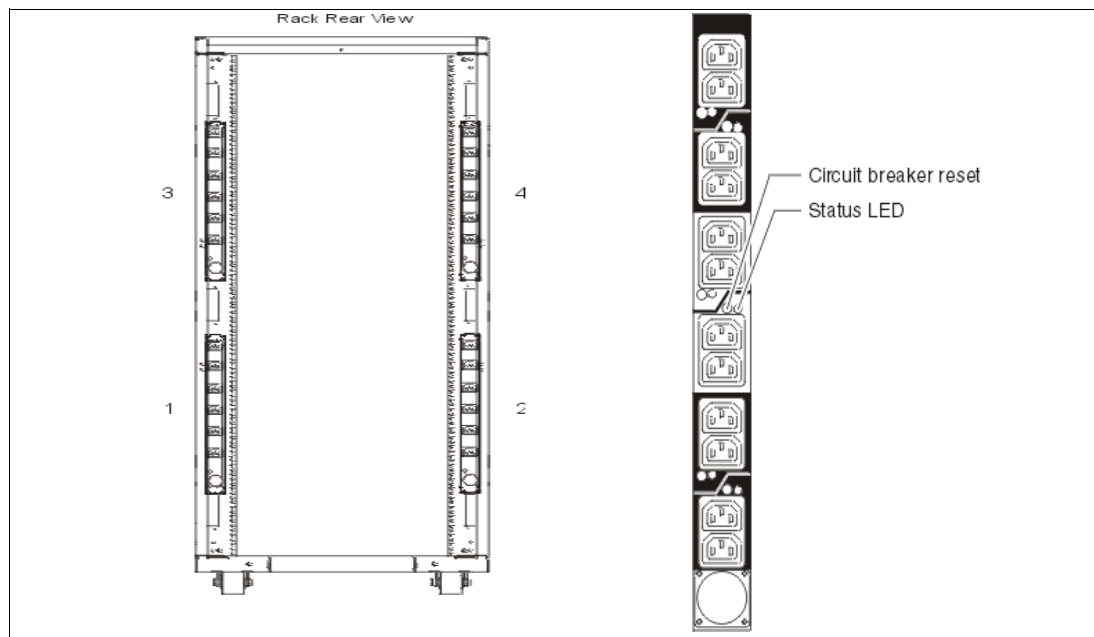

Figure 1-4 PDU placement and PDU view
- ▶ Up to four power distribution units (PDUs) can be mounted in the PDU bays (see Figure 1-4 on page 17), but others can fit inside the rack. See 1.5.6, “The ac power distribution unit and rack content” on page 16.
Four PDUs can be mounted vertically in the T00 and T42 racks. See Figure 1-4 on page 17 for placement of the four vertically mounted PDUs. In the rear of the rack, two additional PDUs can be installed horizontally in the T00 rack and three in the T42 rack. The four vertical mounting locations will be filled first in the T00 and T42 racks. Mounting PDUs horizontally consumes 1U per PDU and reduces the space available for other racked components. When mounting PDUs horizontally, we recommend that you use fillers in the EIA units occupied by these PDUs to facilitate proper air-flow and ventilation in the rack.